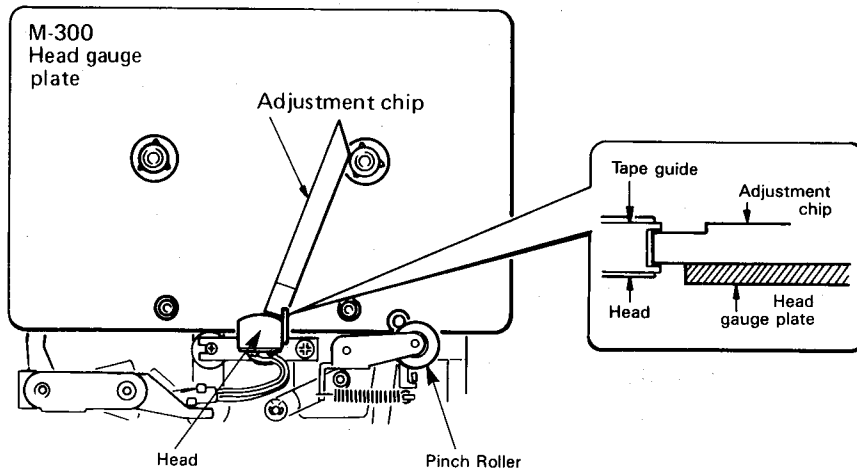

Fig. 2
3. Check to make sure that the adjustment chip does not contact the tape guide of the head. (See Fig.2)